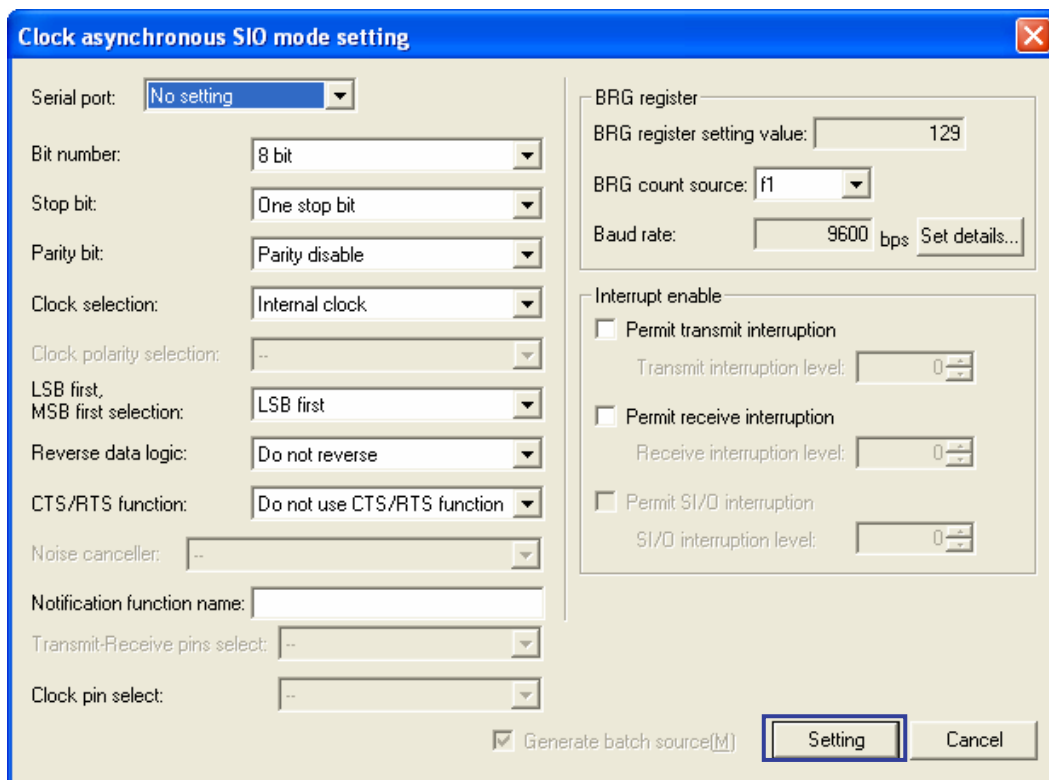
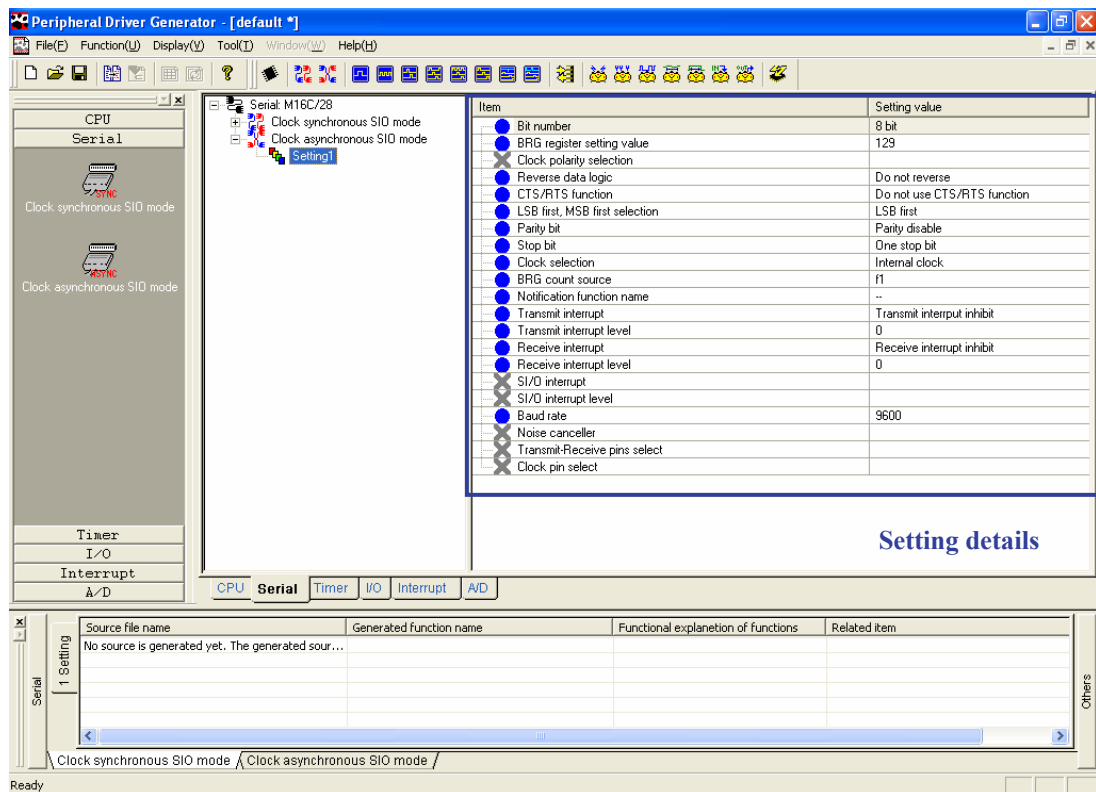

Figure 3.4-2 [Clock asynchronous SIO mode setting] Dialog Box
Figure 3.4-3 Setup Pattern Display Window
- [2] After setting functions of each peripheral I/O modules (see Figure 3.4-2), clicking on the [Setting] button lists the setting details (setup pattern) in the right of the main window (see Figure 3.4-3).